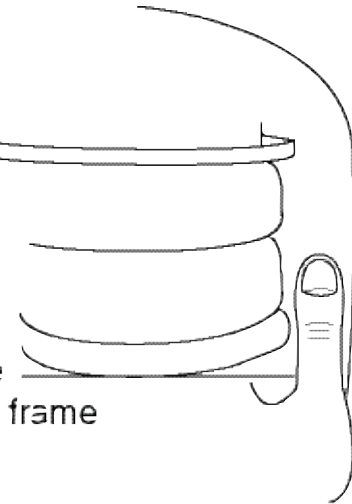

fig. 6
*Keep a finger's width between the roll plate (D) and frame (Figure 6).*